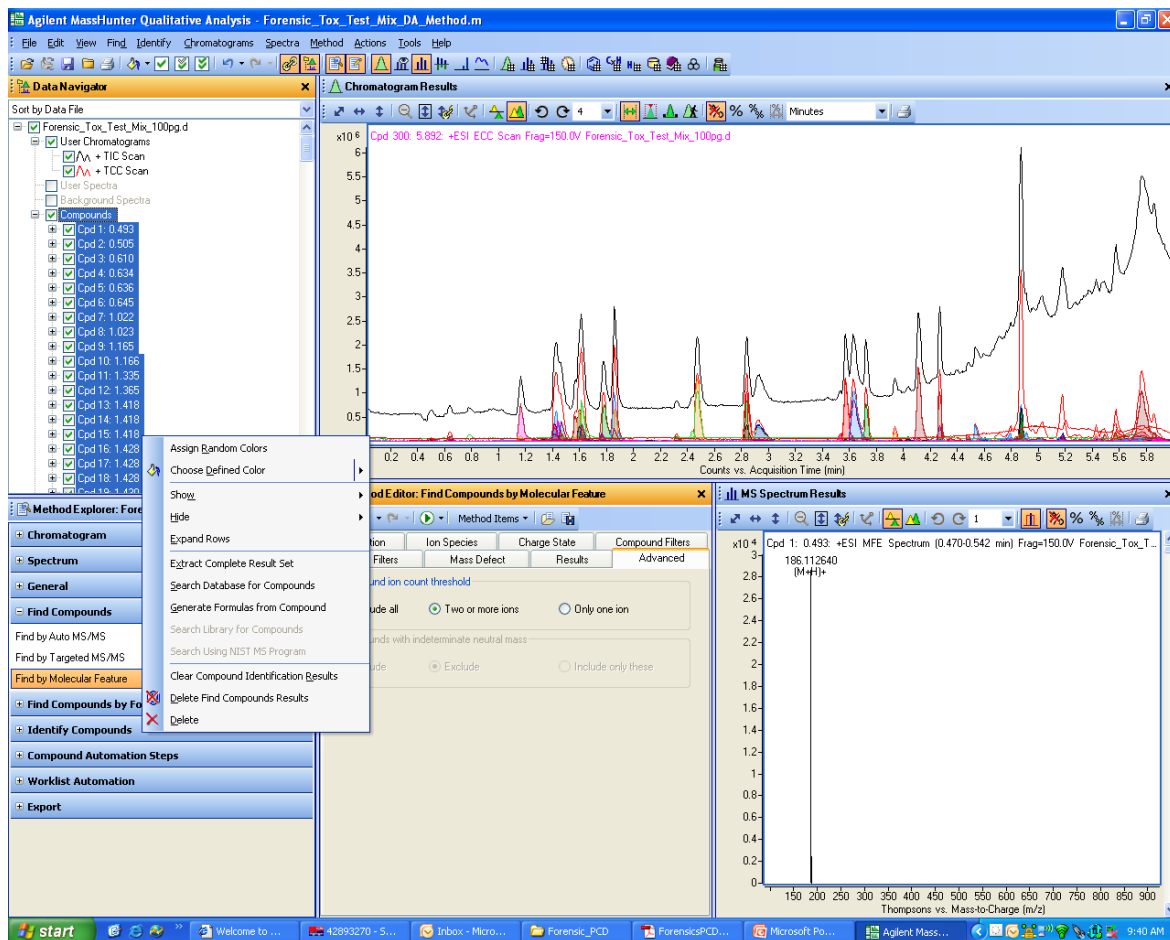

Figure 6 Database Search Results on Find by Molecular Feature compounds
Figure 6 illustrates the results for Find by Molecular Feature.
- 4 In the Data Navigator, click the **Compounds** line to select all compounds that were generated by MFE and which are shown. When all the compounds are selected, right-click the selected compounds and click **Search Database for Compounds** from the shortcut menu (Figure 6).